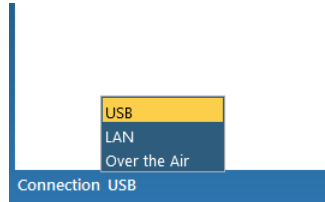

Figure 5: Selecting the USB connection for programming
2. Launch TRBOnet Swift CPS on your computer. In the main window, select **USB** as the programming interface (Figure 5, page 16).
1. Launch TRBOnet Swift CPS. In the main window's bottom bar, select **USB** as an interface for device programming (Figure 5). Connect the programming cable to a USB port of your computer.
1. Launch TRBOnet Swift CPS. In the main window, select **USB** as an interface for device programming at the bottom (Figure 5, page 16). Connect the programming cable to the USB type B port of the A100 gateway and to a USB port of your computer.